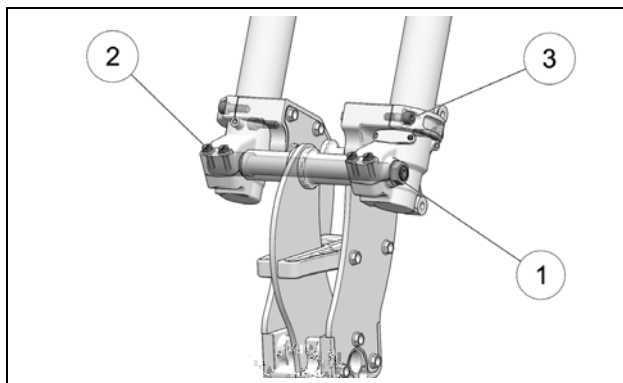

Figure 10
- Tighten, in sequence, the front wheel axle nut (1) and then the pinch bolts (2) at the bottom of the forks to the torque specifications recommended by the manufacturer of the bike. Figure 10.
- Tighten clamp bolts (3) to 25 Nm [18 lb-ft] of torque. See Figure 10.